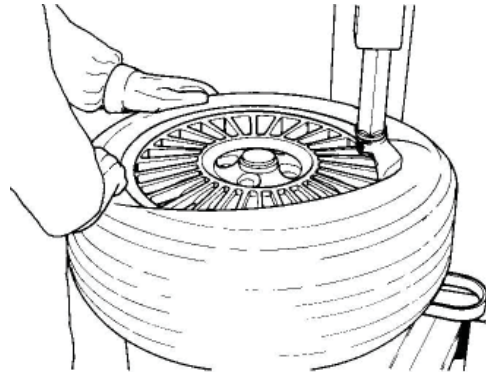

Fig. 4.1-6
**G. Rotate the turntable clockwise (7 RPM Pedal Position) and, at the same time, push down on the tire sidewall to move the bead into the drop center of the rim (Fig. 4.1-6).**